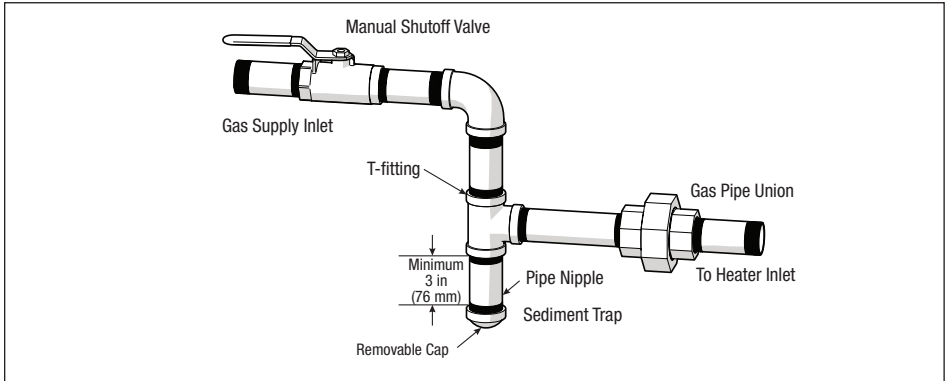

Figure 8. Manual Shut-off Valve and Sediment Trap
- Install a sediment trap and union ahead of the gas controls and outside the heater body. See *Figure 8*.
<p>Do not use flexible appliance connectors on any gas connections unless the connector is CSA approved for outdoor installation, and is marked with the BTUH capacity (which must be equal to or greater than the heater rated input) and the type of gas (Natural or LP). Also, any flexible connectors, such as CSST buried underground must be certified for underground installation and meet all applicable codes. Please note, use of flexible connector still requires the installation of a sediment trap per NFPA 54. See Figure 8.</p>